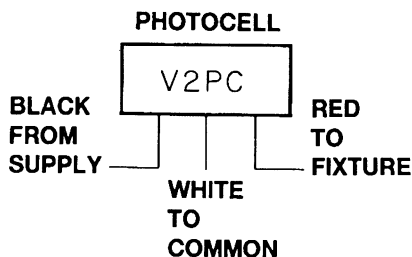

Figure 3
- Make connections to supply lines as shown in Figure 3.
- Make connections to supply line as shown in Figure 3 above.